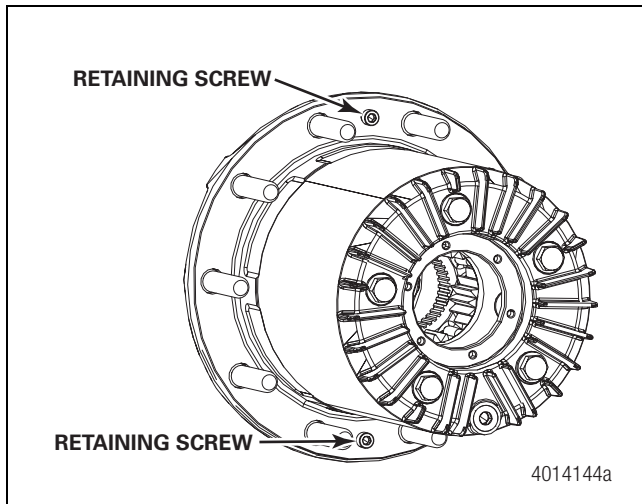

Figure 4.8
12. Block the rotation of the hub. Remove both planetary housing retaining screws. Remove the planetary housing from the hub. Figure 4.8.